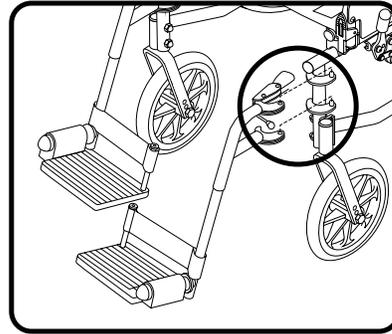

Figure 7. Foot Riggings Removal
5. Either remove the foot riggings or move them aside. See figure 7. You can also flip-up the foot plates. This will help to prevent your feet from being caught on the foot riggings during the transfer. If you use the foot riggings to support yourself during transfer, you risk tipping your wheelchair.